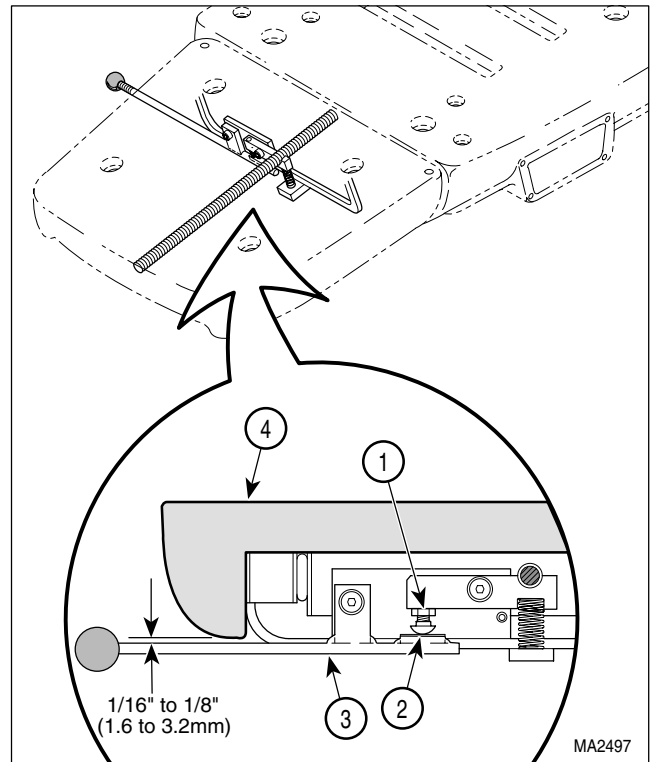

Figure 4-25. Foot Extension
- (1) Loosen jam nut (1, Figure 4-25).
(2) Adjust carriage bolt (2) until there is a 1/16 - 1/8 in (1.6 - 3.2 mm) gap between brake lever (3) and plastic foot section (4).
(3) Tighten jam nut (1).